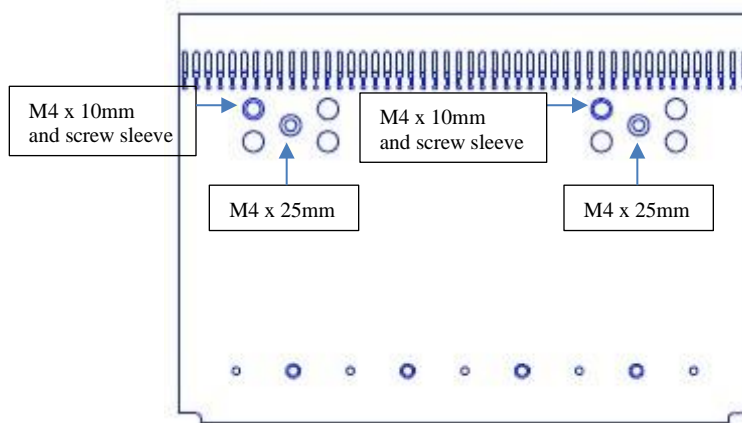

Figure 5 – X Head board screw locations
- 9.1.5 Start a M4 x 25mm BHSCS blue-dyed, Zinc plated screw into the centre holes of the five hole pattern (see Figure 5). Tighten these screws with a 2.5mm hex driver until snug, then back them off slightly.
- 9.1.6 Remove two M4x10mm screws from the epoxy application fixture, then start the screws into the board's two location holes (see Figure 5) and tighten them until snug, with a 2.5mm hex driver. Note that these screw heads, when properly seated, will be below the surface of the board, but because the screw sleeves tend to seat prematurely against the board's counter-bore, you will probably need to wiggle the board with one hand while turning the hex driver with the other until the screw sleeves slip into proper position. After the screw tightens against the properly positioned screw sleeve, loosen it a fraction of a turn.